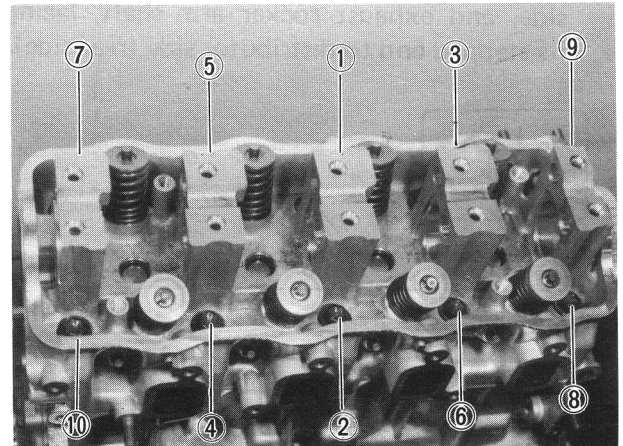

Fig. 3-6-34 Tightening sequence of cylinder head bolts
- 8) Install cylinder head onto cylinder block. Tighten cylinder head bolts gradually with a torque wrench, following sequence in Fig. 3-6-34. Finally tighten bolts to specified torque.